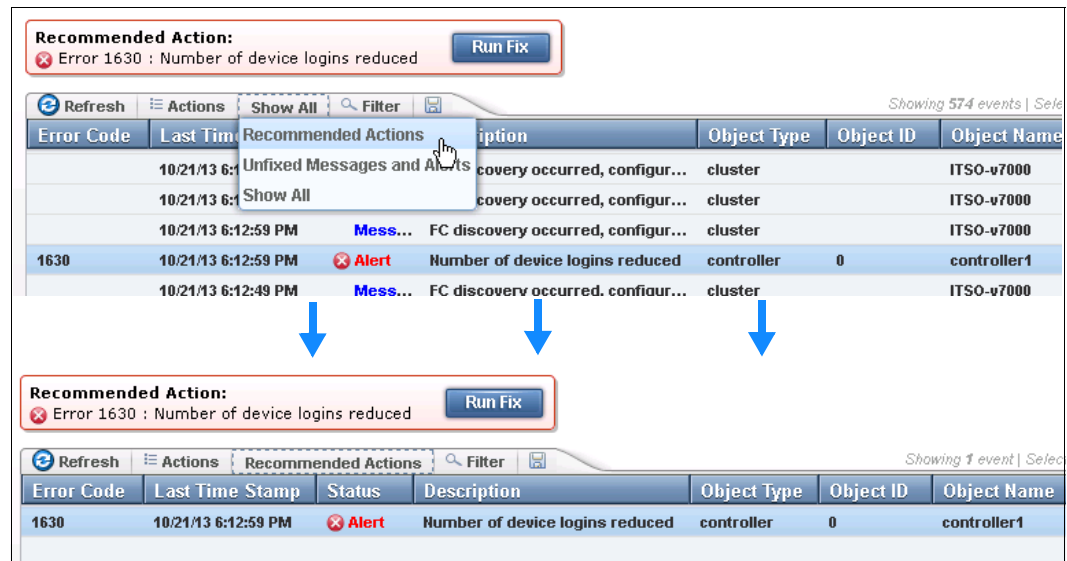

Figure 13-22 Recommended Actions
2. Select **Show All** → **Recommended Actions** to display the most important events to be resolved (Figure 13-22). The Recommended Actions tab shows the highest priority maintenance procedure that must be run. Use the troubleshooting wizard so that IBM Storwize V7000 system can determine the proper order of maintenance procedures.